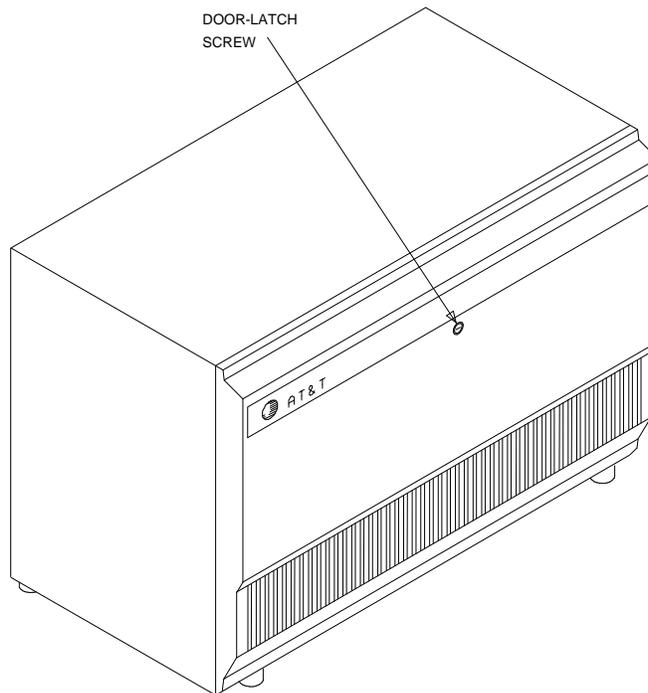

Figure 8-3. Location of Door-Latch Screw for G3i V4 Cabinet
1. Use a screwdriver, and turn door-latch screw counterclockwise one quarter turn to release door (see Figure 8-3).